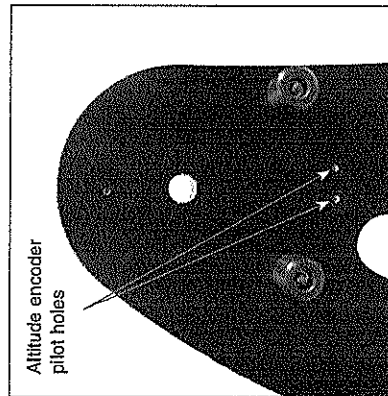

Figure 2. The two pilot holes used to mount the altitude encoder assembly are located on the interior surface of the right side panel of the base.
- 1) Install the altitude encoder assembly onto the base's right side panel. This is the side of the base opposite the side with the IntelliScope Computerized Controller Port. Below the 5/8" through-hole in the panel, there are two pre-drilled starter holes in the inward-facing surface (Figure 2). Take two of the supplied wood screws and push them through the two slotted holes in the bottom of the altitude encoder's computer board. The screw heads should be on the same side as the altitude encoder's modular jack.